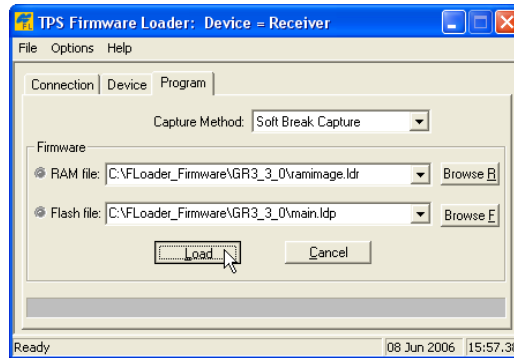

Figure 5-20. Program Tab Settings
- Click the **Program** tab and set the *Capture Method* to “Soft Break Capture” (recommended) (Figure 5-20).
- Browse for and select the receiver board’s RAM file and Flash file (Figure 5-20).